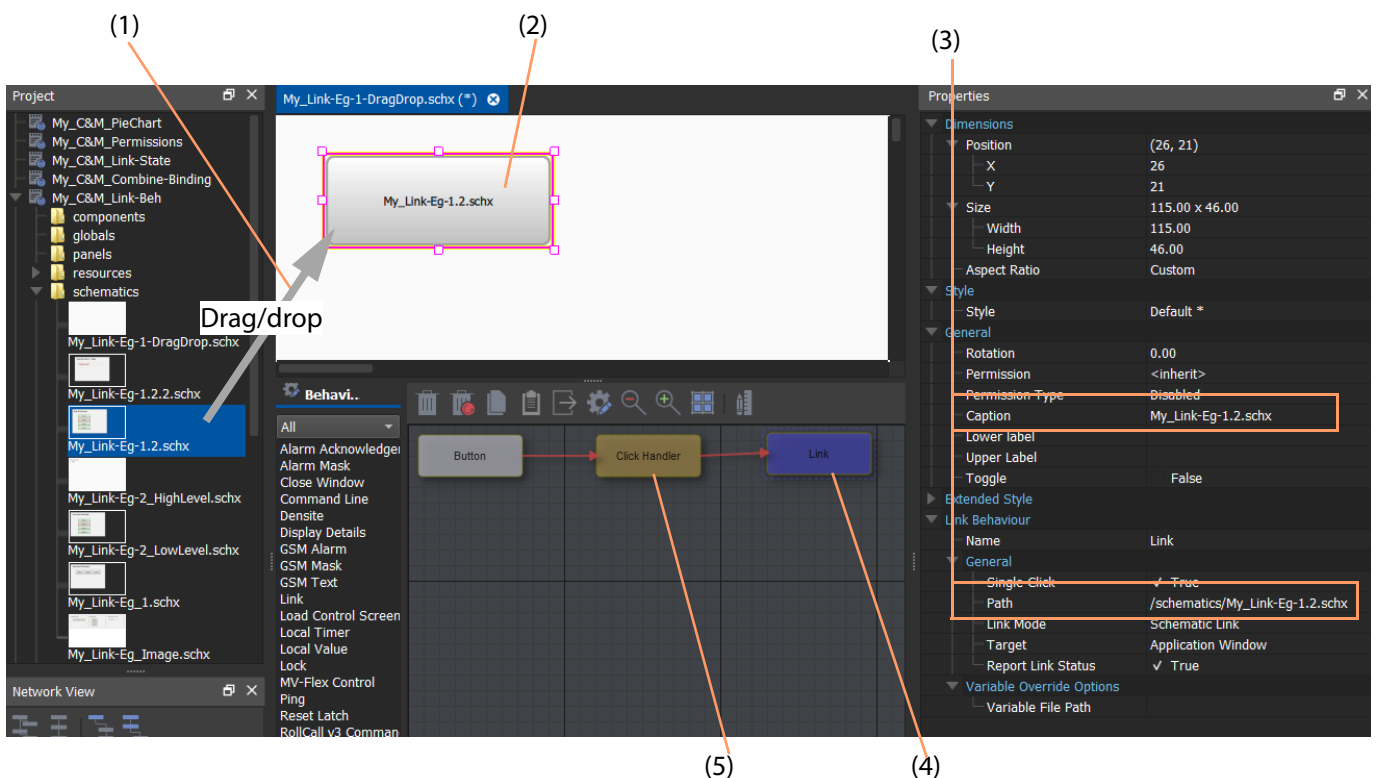

Fig. 8-12: Drag-Dropped Lower-Level Screen
- 1 Drag-drop (lower-level) screen (see Figure 8-12) from the **Project View** pane (1) onto an open screen schematic.